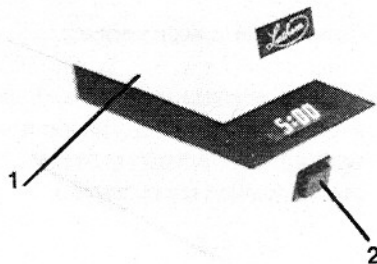

Figure 1
When forms are fully inserted into the stamp, an automatic trigger causes registration. There may be times when it is desirable to create a manual registration. The LT Series gives you that option. To operate manually, insert a form to the desired position by aligning the desired registration position with the print locators (Figure 1, Number 1) on the side of the case. When the form is properly aligned, press the manual registration switch on the front of the unit (Figure 1, Number 2).
Depending on the type of document being stamped, it may be necessary to change the registration position. This can be accomplished by moving the trigger assembly. The trigger assembly has a range of motion of about two (2) inches forward or backward. The trigger assembly tells the unit how far the document must be inserted before activating the stamp. The print locators on either side of the top cover (Page 5, Figure 1, Number 1) can help you center the registration point.